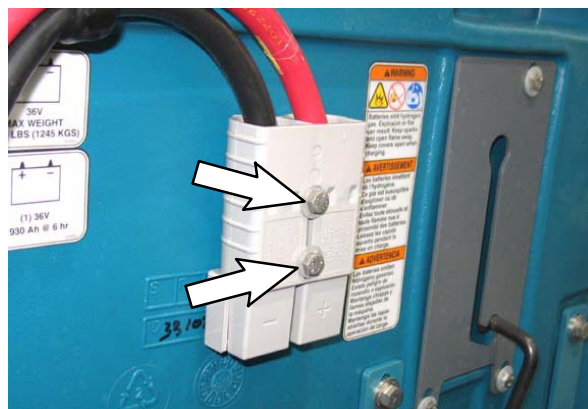

FIG. 1
1. Remove the M6 hex screws/flat washers securing the machine battery cable connector to the battery compartment cover. Discard both M6 hex screws/flat washers. (Fig. 1)